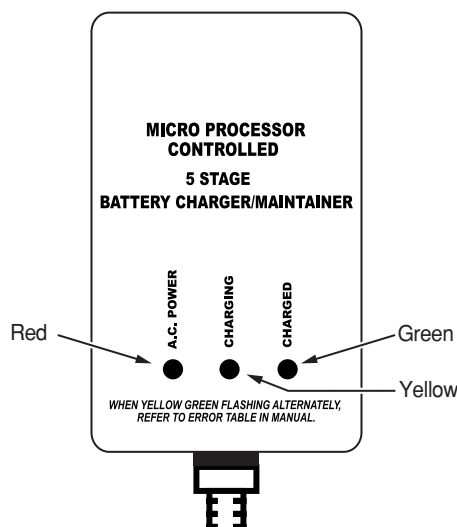

Figure 10 – DB10018T-01 LED Panel
4. With the charger properly connected and plugged in, the panel on the front of the charger will show one of the conditions illustrated in Figure 10.